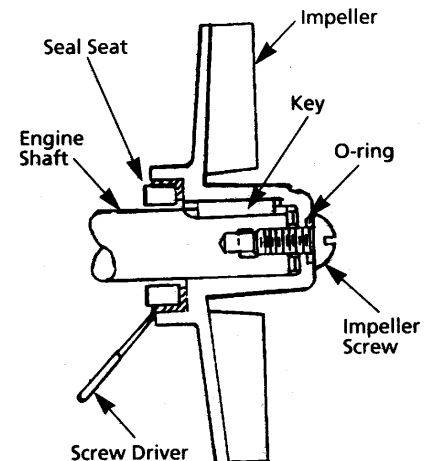

Figure 1 - Mechanical Seal Replacement
Refer to Figures 1, 2, and 3.
3. Pry seal seat (Ref. No. 22) from impeller recess with a screwdriver (See Figure 1).